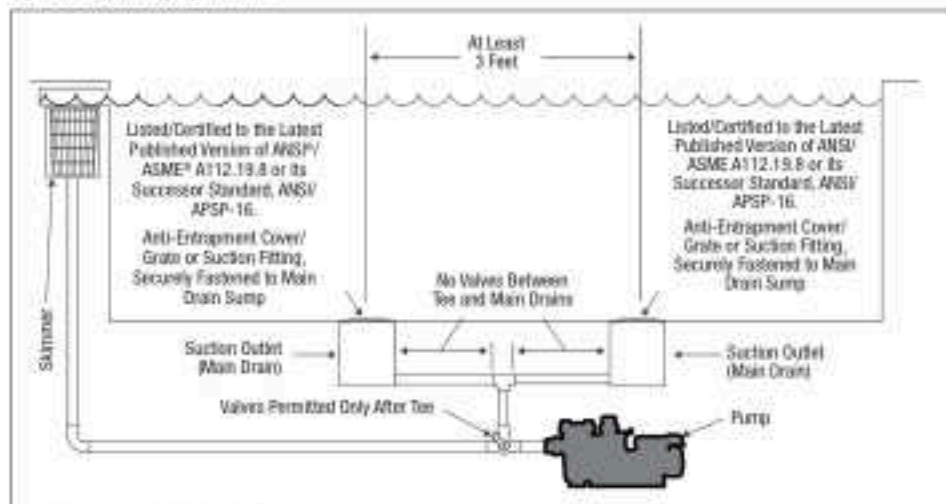

Figure 4. Number of Suction Outlets Per Pump
Number of Suction Outlets Per Pump – Provide at least two (2) hydraulically balanced suction outlets, with covers, on suction outlets for each circulating pump suction line. The centers of the suction outlets (suction outlets on any one (1) suction line must be at least three (3) feet apart, center to center. See Figure 4.
The system **must** be built to include at least two (2) suction outlets (strains) connected to the pump whenever the pump is running. However, if two (2) suction outlets run into a single suction line, the single suction line may be equipped with a valve that will shut off both suction outlets from the pump. The system shall be constructed such that it shall not allow for separate or independent shutoff or isolation of each drain. See Figure 4.